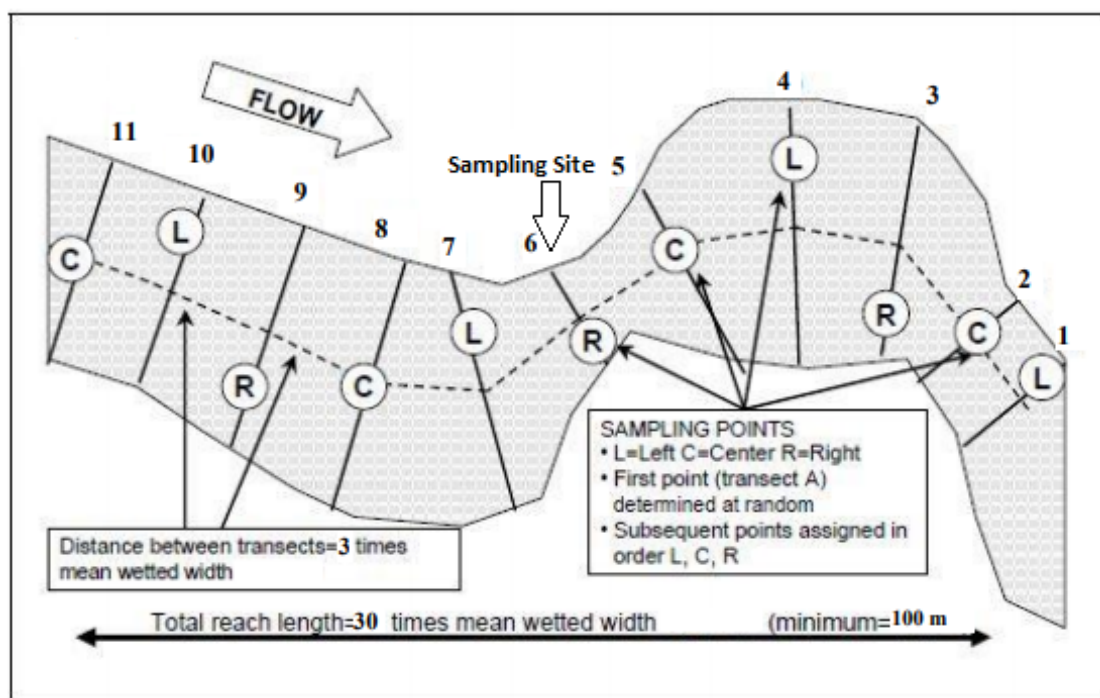

Figure 6. Sampling reach layout for collecting macroinvertebrates.
14. Thoroughly rinse the net before proceeding to the next sampling station. Proceed upstream to the next transect and repeat steps 1 - 13. Make sure to follow the left, center, right pattern to determine which area along the transect to collect the sample (Figure 6). Combine all kick net samples from riffle/run and pool/glide habitats into the bucket.